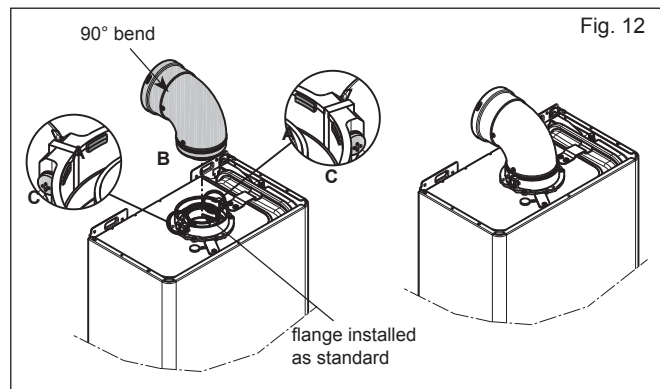
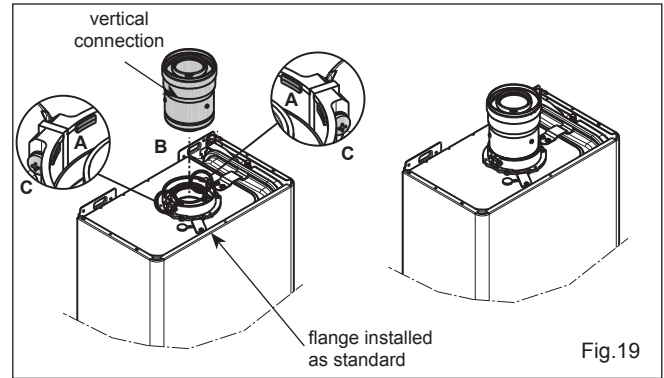

Fig. 12
Fig.19
Carefully measure the distance from the centre of the appliance flue outlet to the edge of the finished outside wall (dimension X). Add 65mm to dimension X to give you Dimension Y (see fig. 12). Measure dimension Y from the terminal end of the concentric flue pipe and cut off the excess ensuring any burrs are removed.
NOTE: The appliance incorporates a 'click-fit' flue connection (see fig. 12). Ensure that both screws 'C' (fig. 12) on the 'click-fit' have been slackened off. Ensure that the bend is correctly aligned with the connector and insert the flue bend into the connector until it clicks into position (this is when the tabs at points 'A' are located in the groove of the flue bend - see fig. 12). Both screws (C) should now be tightened.
NOTE: The appliance incorporates a 'click-fit' flue connection (see fig. 12). Ensure that both screws 'C' (fig. 12) on the 'click-fit' have been slackened off. Ensure that the bend is correctly aligned with the connector and insert the flue bend into the connector until it clicks into position (this is when the tabs at points 'A' are located in the groove of the flue bend - see fig. 12). Both screws (C) should now be tightened. The additional bends & extensions have push-fit connections, care should be taken to ensure that the correct seal is made when assembling
NOTE: The appliance incorporates a 'click-fit' flue connection (see fig. 19). Ensure that both screws 'C' (fig. 12) on the 'click-fit' have been slackened off. Ensure that the connector is correctly aligned with the 'click-fit' and insert it into the 'click-fit' until it clicks into position (this is when the tabs at points 'A' are located in the groove of the vertical flue connector - see fig. 19). Both screws (C) should now be tightened.